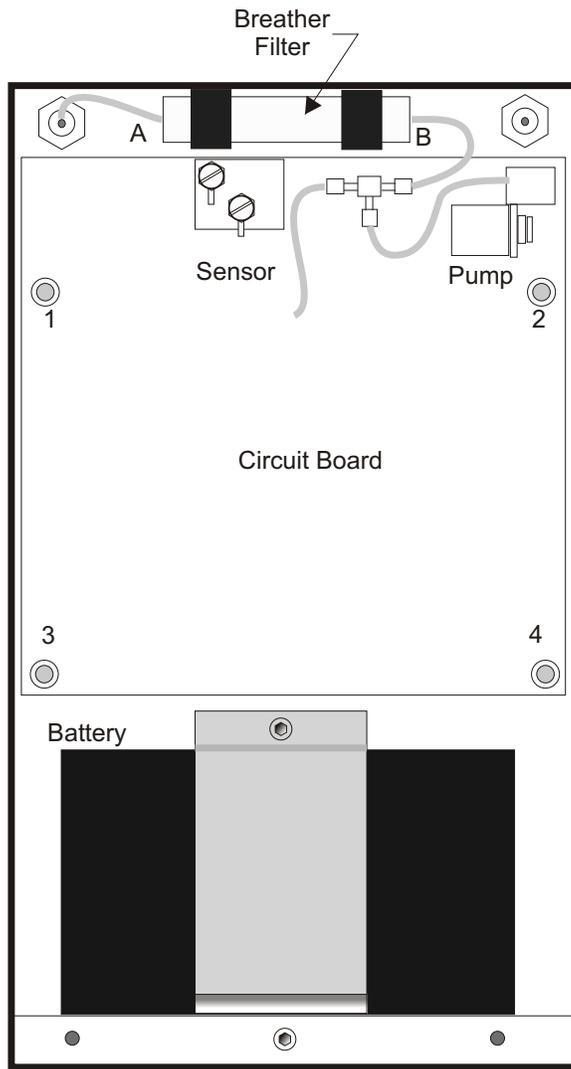

Figure 5.1: Breather Filter Location
1. Remove the rear cover from the Model 921A (4 each M3 screws; a T10 driver). Take care of small parts needed to reassemble the 921A. See Figure 5.1.